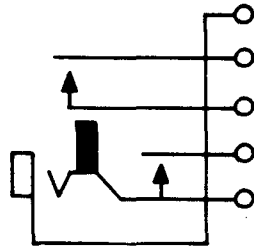

Fig. 13—297A or C Jack
**2.13 297A and C:** These single-mounted jacks (Fig. 13) are used with 1D, 1E, 153, 209, 241, 305, 327, 328, 347, 373, and 464 plugs.